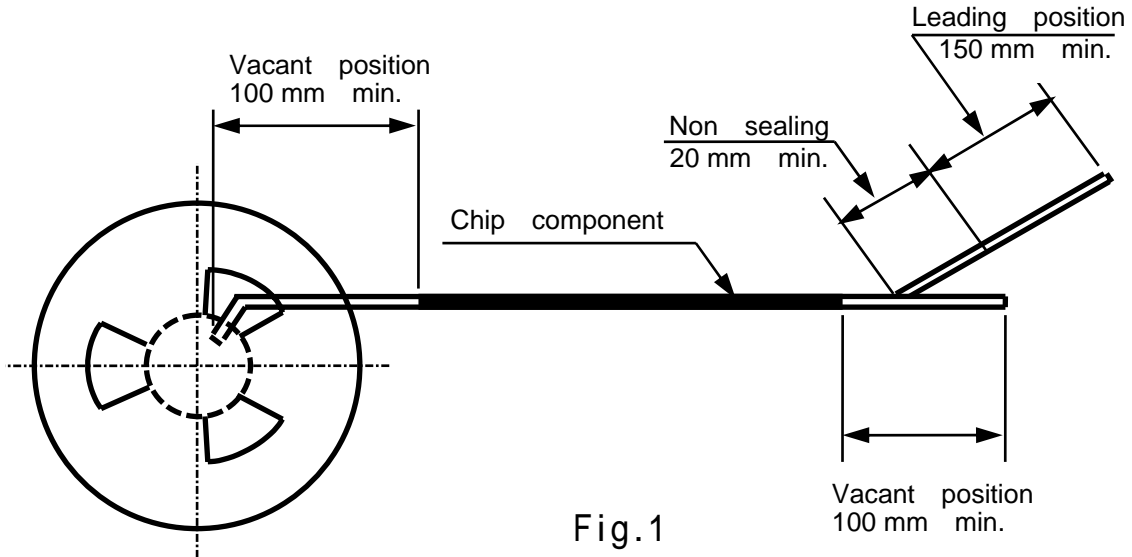

Fig.1
- 6.4. Taping method..... Fig.1